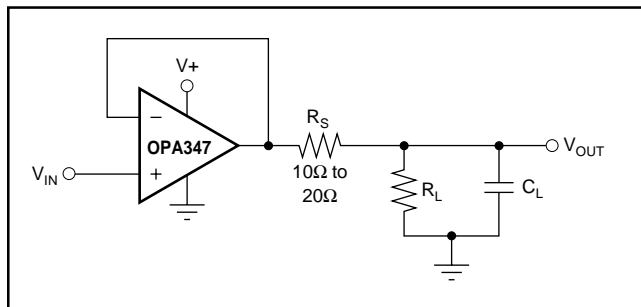

FIGURE 6. Series Resistor in Unity-Gain Buffer Configuration Improves Capacitive Load Drive.
The OPA347 in a unity-gain configuration can directly drive up to 250pF pure capacitive load. Increasing the gain enhances the amplifier's ability to drive greater capacitive loads (see the characteristic curve Small-Signal Overshoot vs Capacitive Load). In unity-gain configurations, capacitive load drive can be improved by inserting a small (10Ω to 20Ω) resistor, R_S , in series with the output, as shown in Figure 6. This significantly reduces ringing while maintaining Direct Current (DC) performance for purely capacitive loads. However, if there is a resistive load in parallel with the capacitive load, a voltage divider is created, introducing a DC error at the output and slightly reducing the output swing. The error introduced is proportional to the ratio R_S/R_L , and is generally negligible.